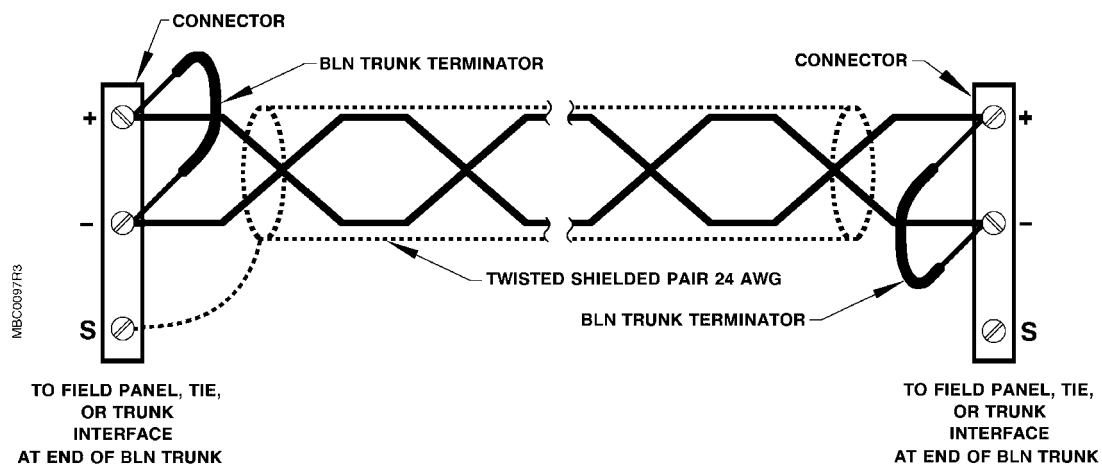

Figure 1. PMD Trunk Terminator Connections.
2. Insert twisted wires into screw terminals of connector for field panel, TIE, Trunk Interface, or Fiber Optic Trunk Interface. Refer to Figure 1.